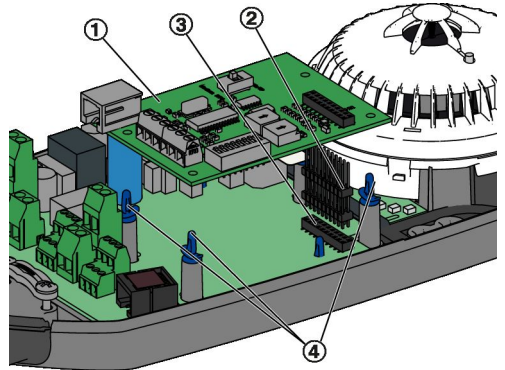

Fig. 18: Insert expansion module
1. ▶ Plug the short side of the pin header (Fig. 18/2) into the socket (Fig. 18/3) on the mainboard.
2. ▶ Plug the expansion module (Fig. 18/1) onto the pin strip and press it firmly onto the four fastening points (Fig. 18/4).